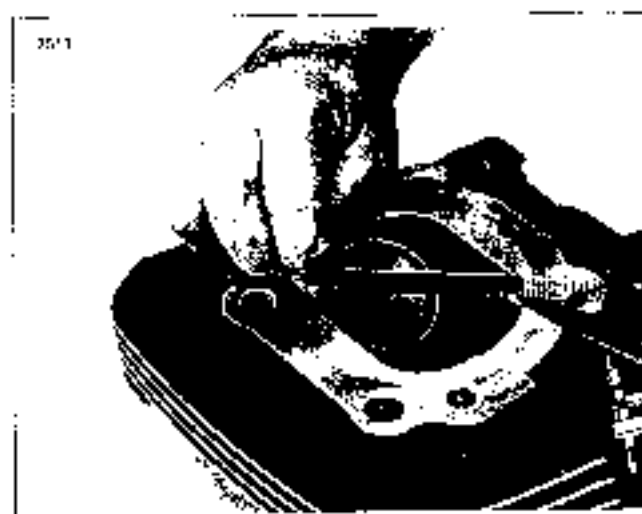

Figure 3-93. Cylinder Head Warpage Check
2. See Figure 3-93. Check for warpage.